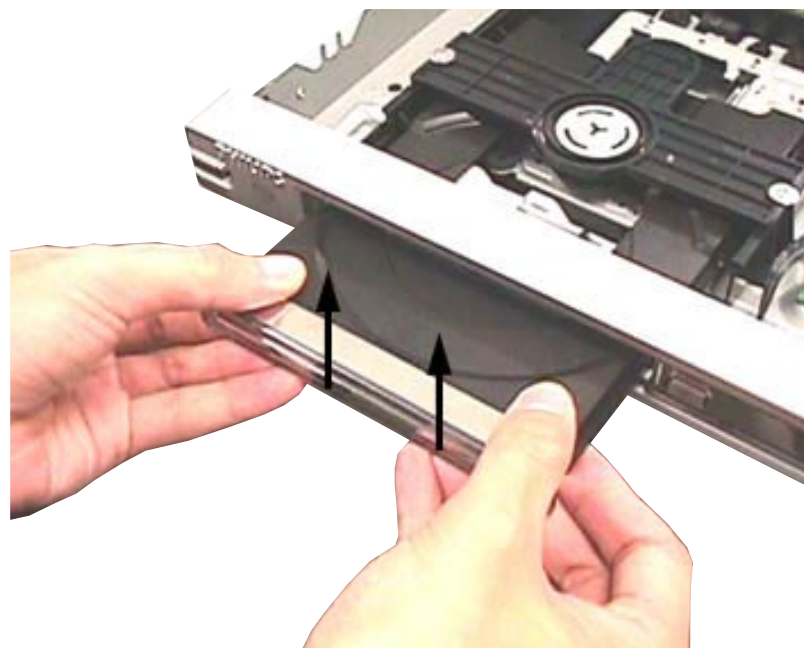

Figure 2
- 2) Slide out the tray and remove the Tray Front assembly (pos 110 + pos 111) as shown in Figure 2.
- 3) Loosen 5 screws to remove the Cover Top (pos 240).